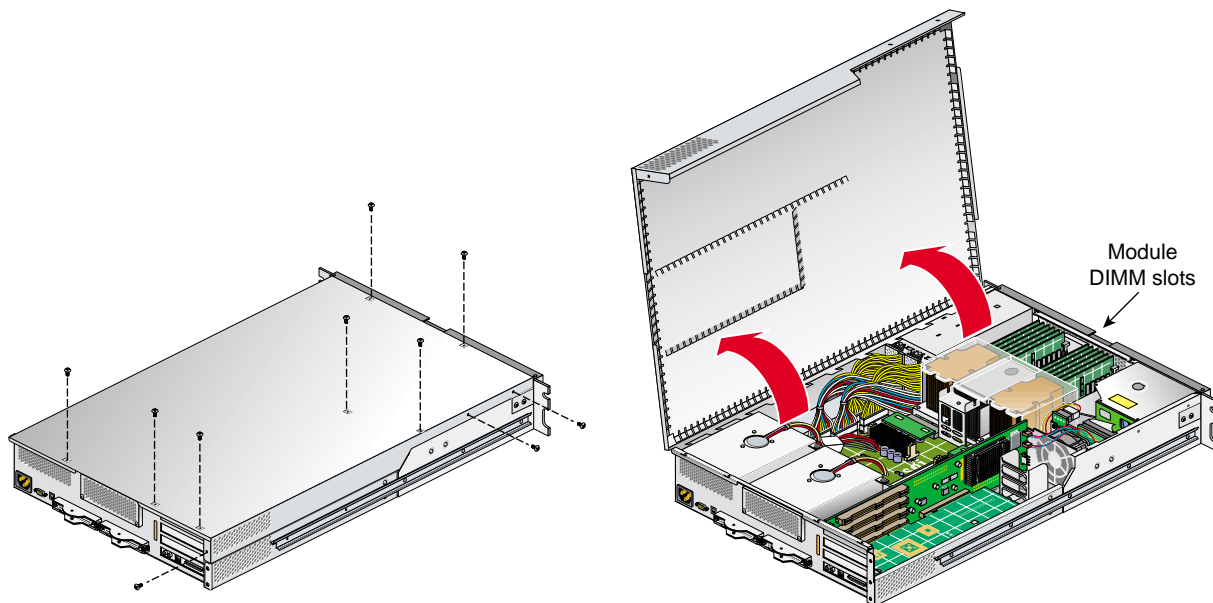

Figure 3-30 Opening Module Cover to Install DIMMs
5. To access the DIMMs, remove the ten Phillips screws shown in Figure 3-30 and lift and open the hinged cover.